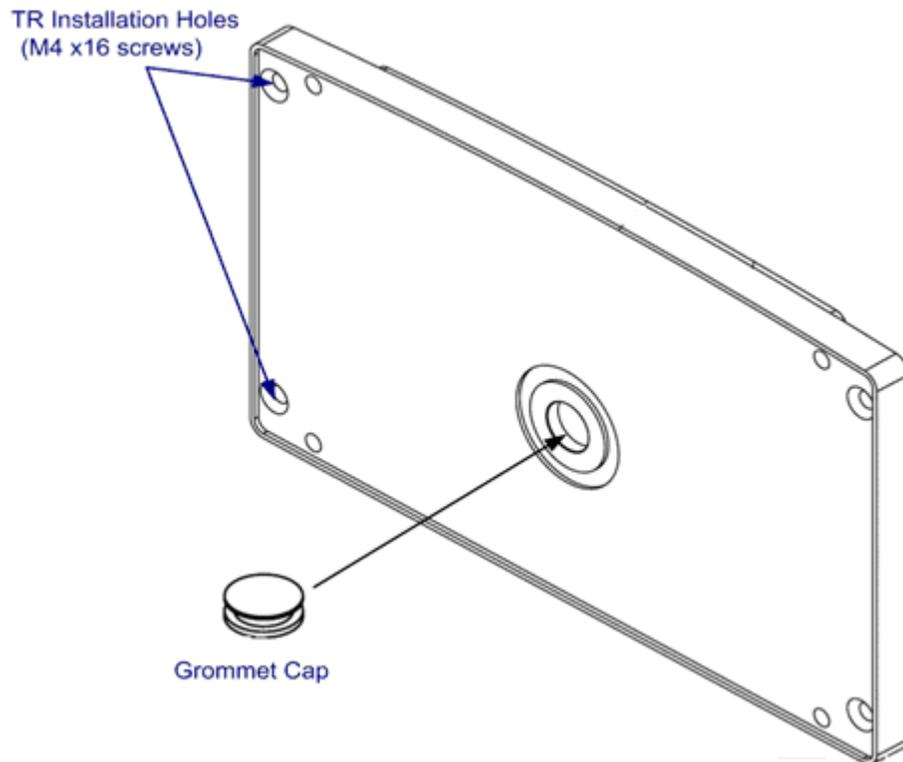

Figure 2-4. Tag Reader Installation Holes and Grommet Cap, Rear View
2. Remove the four M4 x16 screws at the rear panel attaching the rear panel (see Figure 2-4)